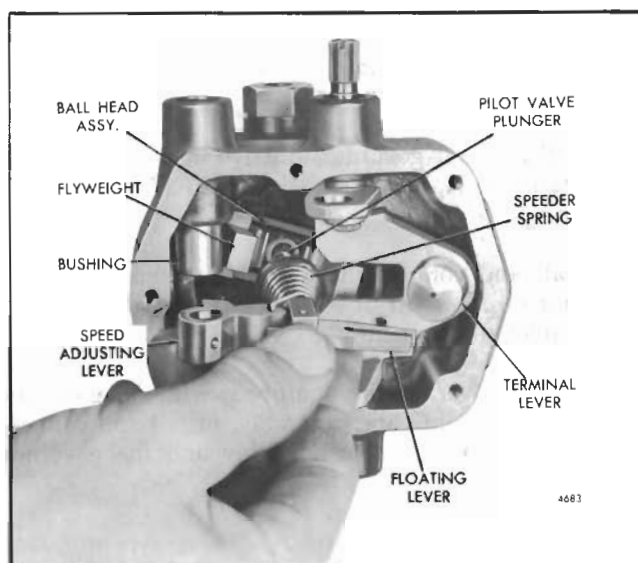
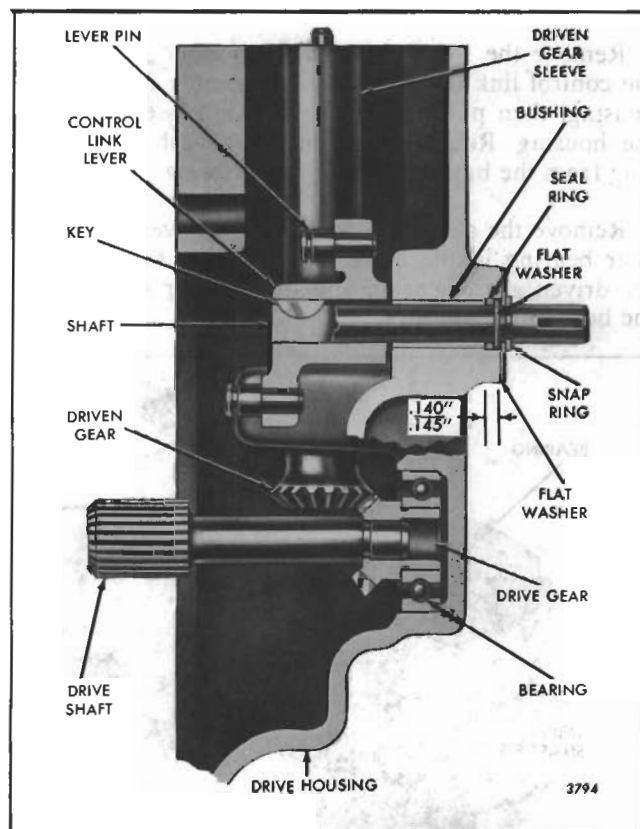

Fig. 16 - Installing Speed Adjusting Lever, Floating Lever, Speeder Spring and Pilot Valve Plunger Assembly
Fig. 1 - Governor Drive Assembly
18. Lubricate the pilot valve plunger thrust bearing with engine oil and place it over the end of the pilot valve plunger with the smallest, outside diameter, bearing race next to the spring seat (Fig. 1).
19. Lubricate the pilot valve plunger with engine oil. Then hold the thrust bearing against the spring seat and insert the assembly in the governor housing with the speed adjusting lever facing the two bushings in the housing (Fig. 16). Start the pilot valve plunger straight into the bore of the ball head and push the assembly in until the speed adjusting lever is in position between the two bushings and the thrust bearing is resting on the lip of the flyweights (Fig. 1).
20. Install the speed adjusting lever shaft (26) and roll (spring) pin (15) in the governor housing as follows:
22. If removed, thread the lock nut on the maximum speed adjusting screw (35). Place the copper washer on the adjusting screw, then thread the screw approximately halfway in the governor housing (Fig. 1).
24. Affix a new governor subcap gasket (56) to the top of the governor housing.
25. Place the governor subcap (64) on top of the gasket and housing with the fuel rod spring opening in the subcap facing the maximum speed adjusting screw side of the governor housing (Fig. 1). Install the two subcap screws and lock washers and tighten them securely.
26. Refer to Figs. 1, 7 and 12 and install the spring guide rod (77), spring guide rod seat (76), fuel rod spring (21), spring pad cover (80) and the load limit adjusting screw (8) in the governor subcap as follows:
- d. Affix a new gasket (79) to the flat face of the spring pad cover (80).
The governor is driven by one of the blower rotors through a horizontal drive shaft and drive (bevel) gear and an integral vertical driven (bevel) gear (Fig. 1). Each gear is mounted on a ball bearing and is contained in a drive housing that also serves as the blower front cover.
Refer to Figs. 1 and 2 and disassemble the governor drive assembly as follows:
Inspect the control link operating shaft and its bushing in the governor drive housing for wear. If a new bushing is to be installed, press it in the drive housing so it will be .140 " to .145 " below the outside face of the housing to provide space for the seal ring (Fig. 1).
Refer to Figs. 1 and 6 for the location of the various parts and assemble the governor drive as outlined below:
2. Lubricate the governor drive shaft bearing with engine oil, then insert the drive shaft, drive gear and bearing assembly straight into the bearing bore in the drive housing (Fig. 1).
a. Lubricate the control link lever shaft with engine oil, then slide the shaft through the bushing from the inner side of the housing (Fig. 1).